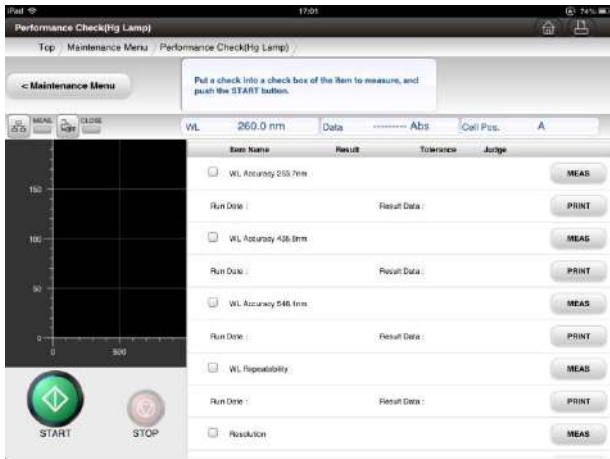

Fig. 6-28 Performance Check Screen
- (1) Display the Performance Check screen (Fig. 6-28). Press the  button on the right edge of the item name “WL accuracy 253.7 nm.” The Wavelength accuracy check of the selected Wavelength is performed.